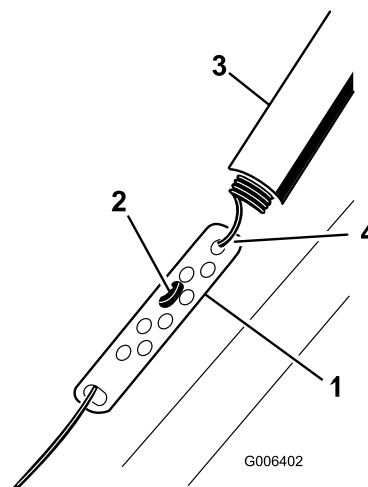

Figure 26
- Slide up the spring cover and unhook the spring from the adjuster link (Figure 26).